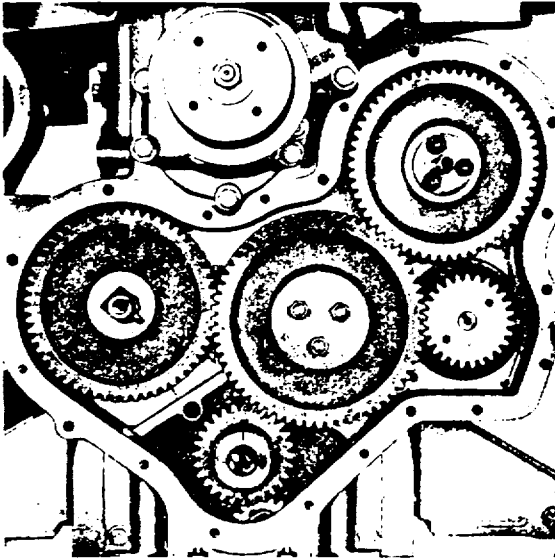

Fig. K.4.
4. Refit the idler gear to its hub ensuring that the timing marks on the crankshaft, camshaft, fuel pump and idler gears are correctly aligned as shown in Fig. K.4.
5. Refit the idler gear to its hub ensuring that the timing marks on the crankshaft gear, fuel pump gear, camshaft gear and idler gear are correctly aligned as shown in Fig. K.4. Assemble the idler gear retaining plate to its studs, and secure with the three self locking nuts tightened to a torque setting of 30 lbf ft (4,1 kgf m)- 40 Nm.
2. Turn the crankshaft until all the timing marks are correctly aligned (see Fig. K.4).
4. Refit the idler gear to its hub as previously detailed ensuring that the timing marks are correctly aligned as shown in Fig. K.4.